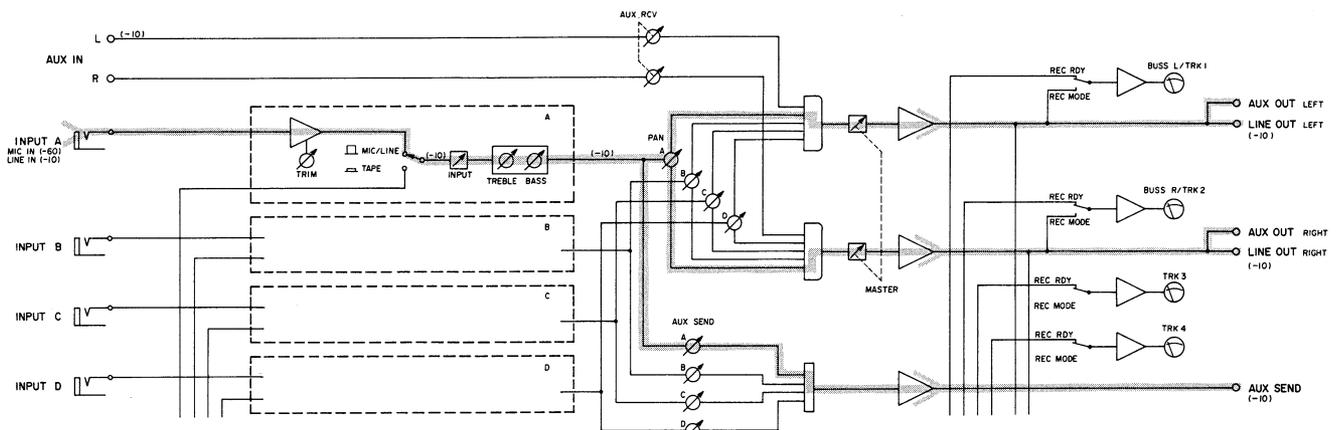

Fig. 5-10-2
Inject a reference signal into LINE IN, set AUX IN knob to maximum, and check for the reference signal at the AUX SEND output terminal. Fig. 5-10-2.
- C. Signal route : Fig. 5-10-2